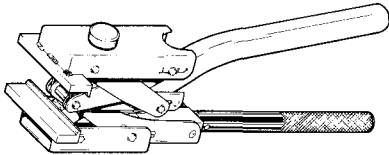

Fig. 7—4270 Hand Presser
- a. The 4270 Hand Presser is used to plug preterminated and spliced module combinations together. These module combinations can range from two single modules (i.e. Super Mate Module to Super Mini Module or Super Mate Module to Super Mate Module) up to seven modules. See Figure 7.